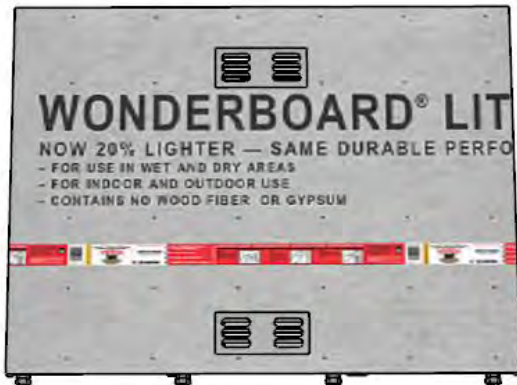

Figure 14
- Insert screws and secure with washers and nuts. If you make the holes too big, you can use larger washers to help keep the nuts from pulling through the cement board. Do not overtighten. See figure 14.